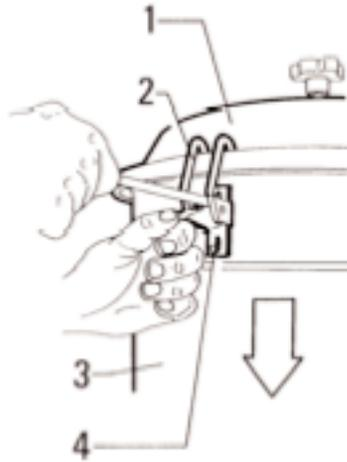

Fig. 7.3.7
7.3.4 - Checking the upper seal of the filter chamber (fig. 7.3.7)